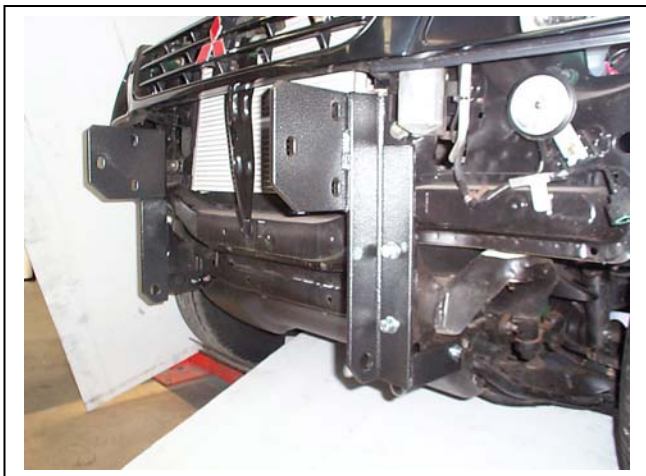

Figure 1
6. Attach the steel mounting brackets (supplied) using the M10 x 30 x 1.25 bolts (supplied) on the front and the 3/8 x 1 ¼ bolts (supplied) on the side. **DO NOT TIGHTEN. See figures 1 and 2.**